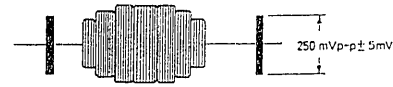

Fig. 4-114
(9) Record Chroma Signal Level Adjustment (Figs. 4-114, 4-151)